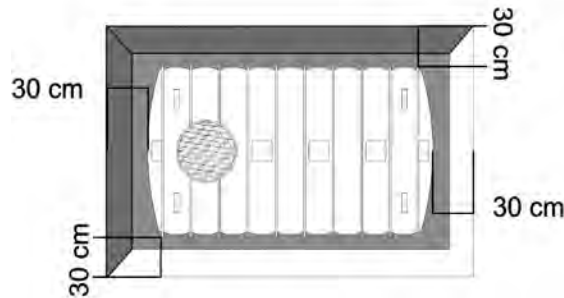

Fig. 1
Carry out the excavation considering that, in addition to the dimensions of the tank, a distance of 30 cm beyond the overall dimensions must be calculated on each side, as shown in figure 1. The bottom of the excavation must allow a perfect drainage, to prevent it from causing water stagnation and accumulation.
1. Carry out the excavation with the dimensions suggested in figure 1.